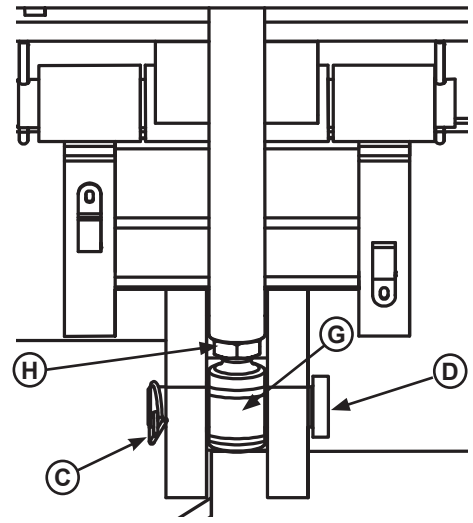

Figure 17
4. If connected, remove the rue clip (C) and disconnect the lower hoist cylinder mounting pin (D). See **Figure 17**.
- d. Lock rue clip (C) into place as shown in **Figure 17**.
10. Reinstall the stored limit switch (B). Confirm the BLUE “Leveler Stored” indicator light on control panel is illuminated.